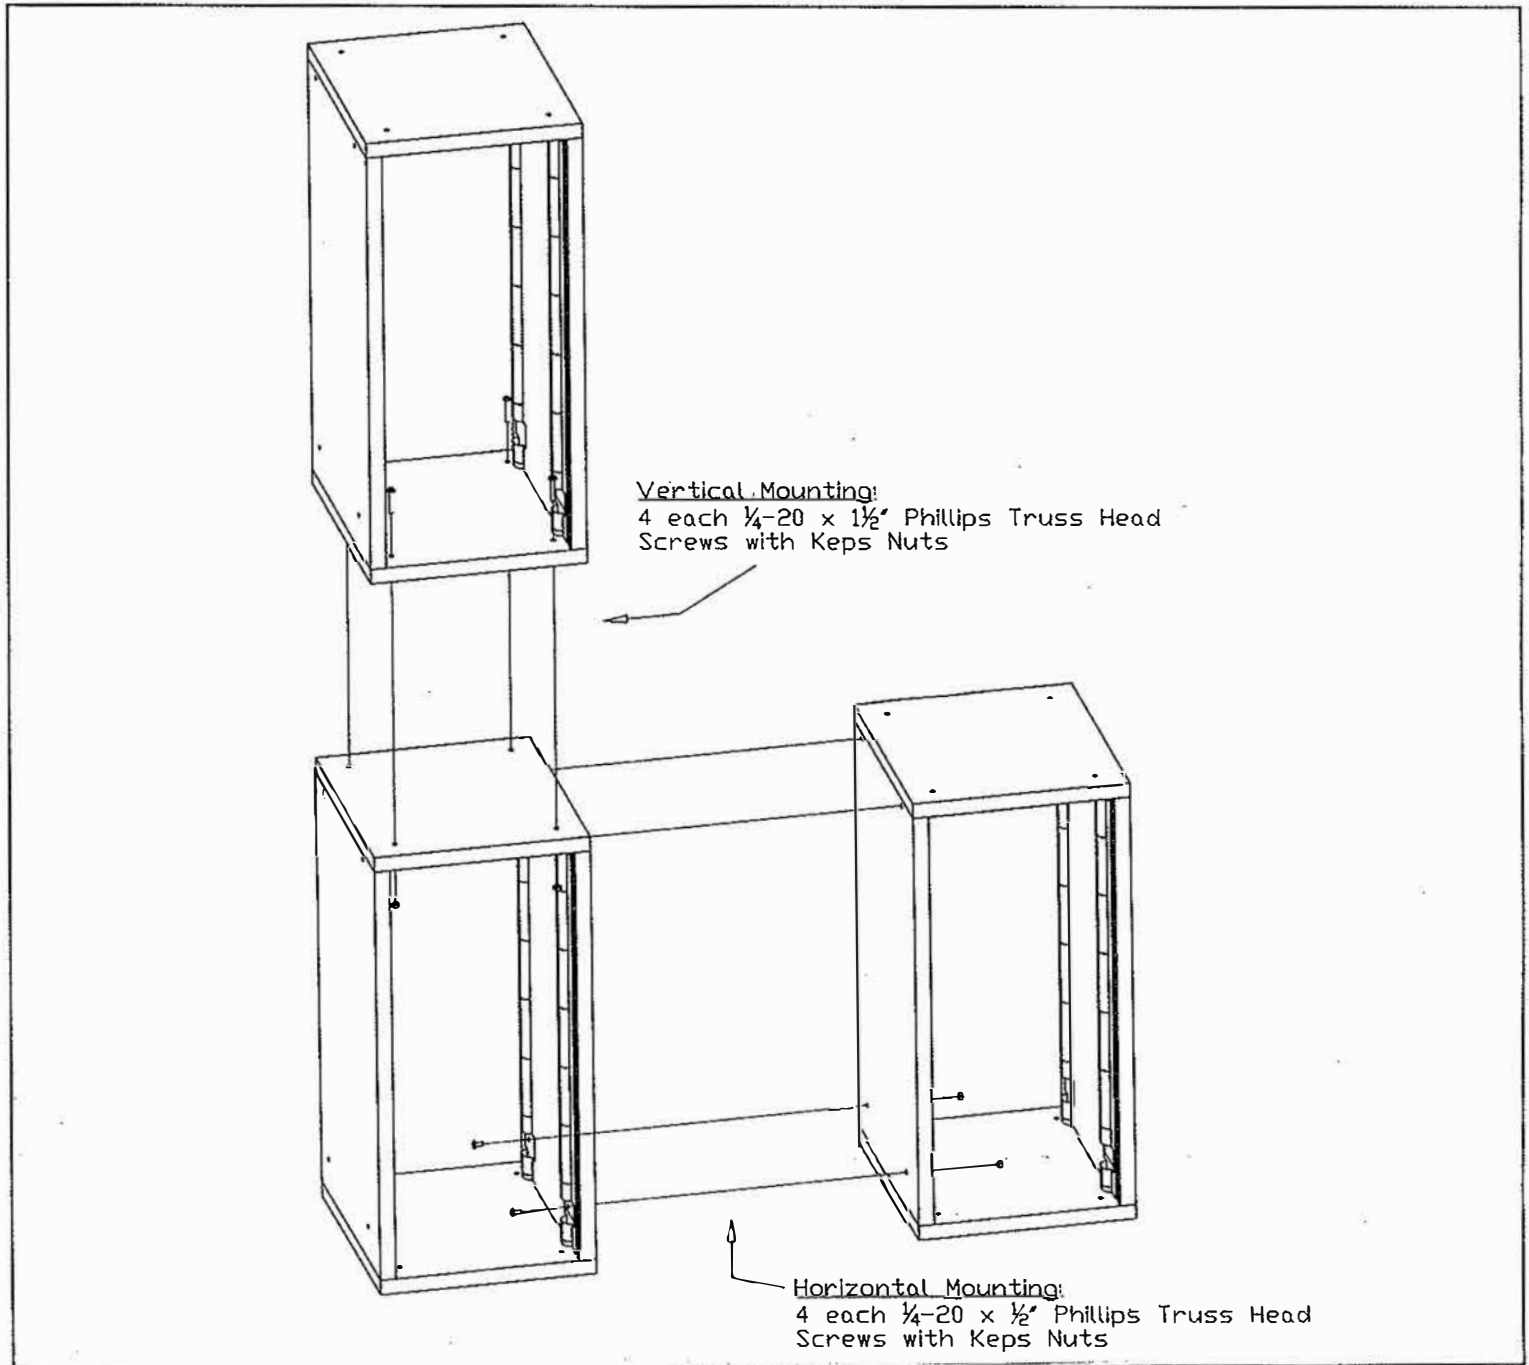

Figure 5
A) **Horizontal Mounting:** Bolt the Shells together using four  $\frac{1}{4}$ -20 x  $\frac{1}{2}$ " Phillips Truss Head Screws with Keps Nuts (See Fig. 5).